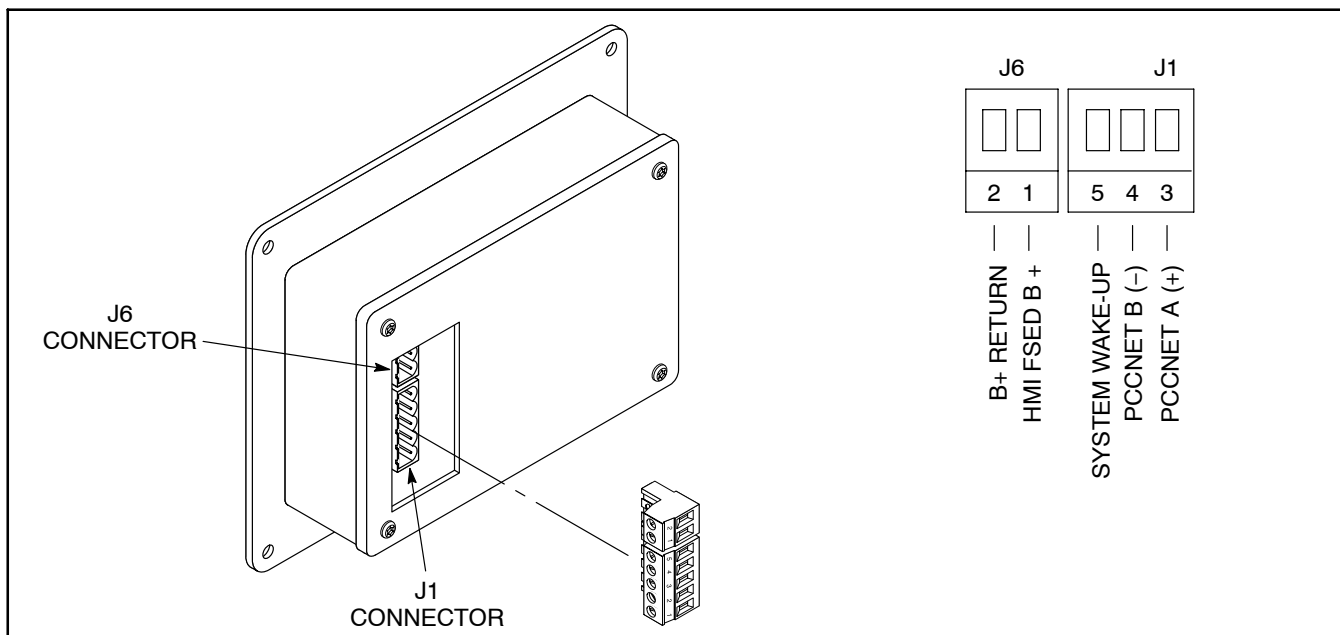

FIGURE 4. BARGRAPH CONNECTORS
3. Connect the genset harness connectors to connectors J6 and J1 (see Figures 4 and 5).